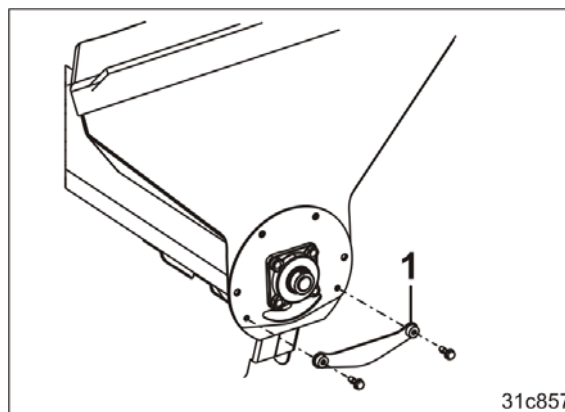

Fig. 252
3. Unscrew the seal (Fig. 252/1) to empty the filling funnel.